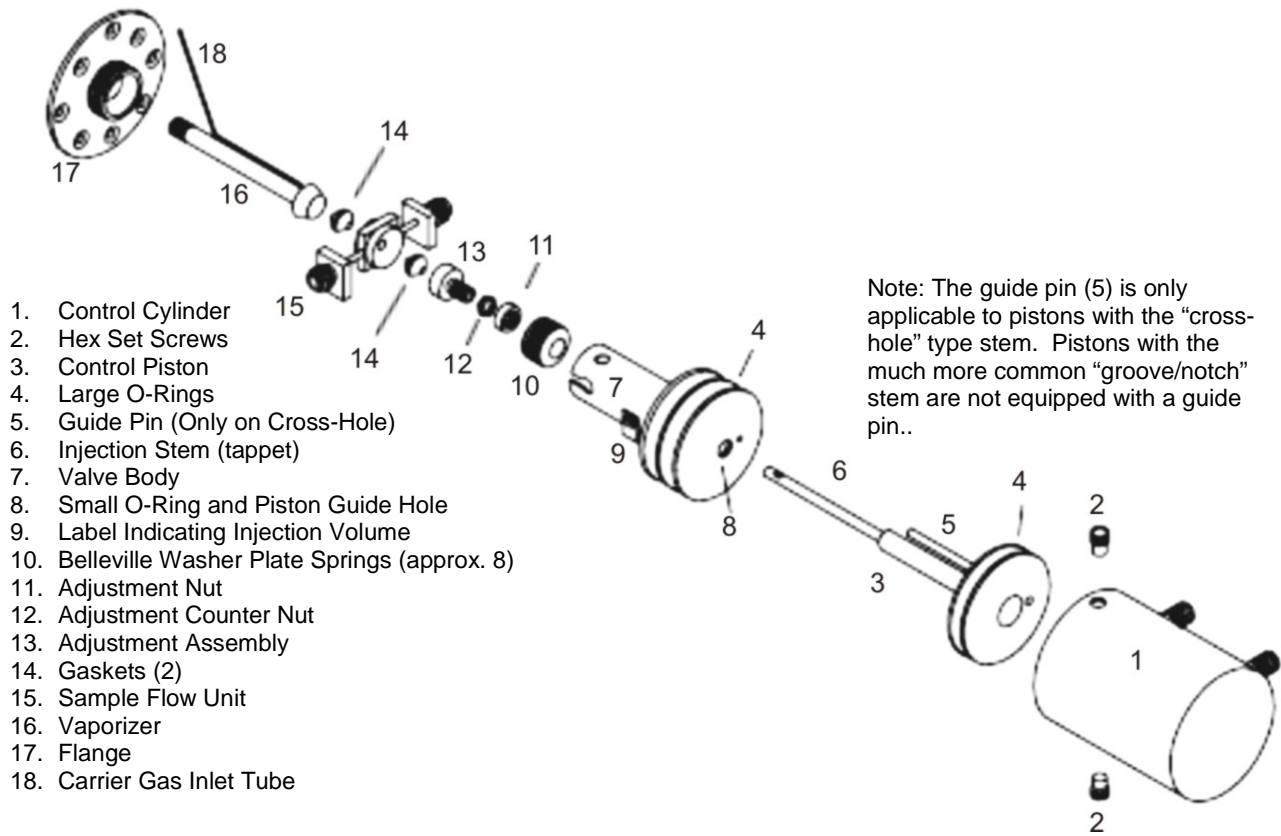

Figure 4-51: Liquid Injection Valve Exploded View
Throughout this section, the numbers located next to part names, such as “Flange (17)”, refer to callouts listed in Figure 4-51. Refer back to Figure 4-51 for part locations.
- A sample that contains non-volatile or easily polymerized components (salts, proteins, monomers etc.) can deposit residues in the vaporizer (16), in the injection hole, on the sample flow unit (15), and on the injection stem (6). Therefore, these parts should be cleaned regularly if the sample contains materials which are not vaporized. Refer to Figure 4-51 for part locations.
- The sample flow unit (15) should be oriented vertically when the valve is installed. This is so that the sample will flow vertically through the valve to prevent air bubbles from forming in the valve. Make note of this when reinstalling the valve after service.
Figure 4-51 is an exploded view of the valve. Use this figure to aid you in removal and replacement of parts. Parts shown for the heater and sensor area may vary depending upon the valve type.
Refer to Figure 4-51 for the following procedure.
Refer to Figure 4-51 for the following procedures.
Refer to Figure 4-51 for the following procedures. The silicone O-rings of the pneumatic drive should be regularly greased with Dow Corning Grease 111, 44 or equivalent.
Read the following notes before performing the assembly procedure. Refer to Figure 4-51 for the following procedures